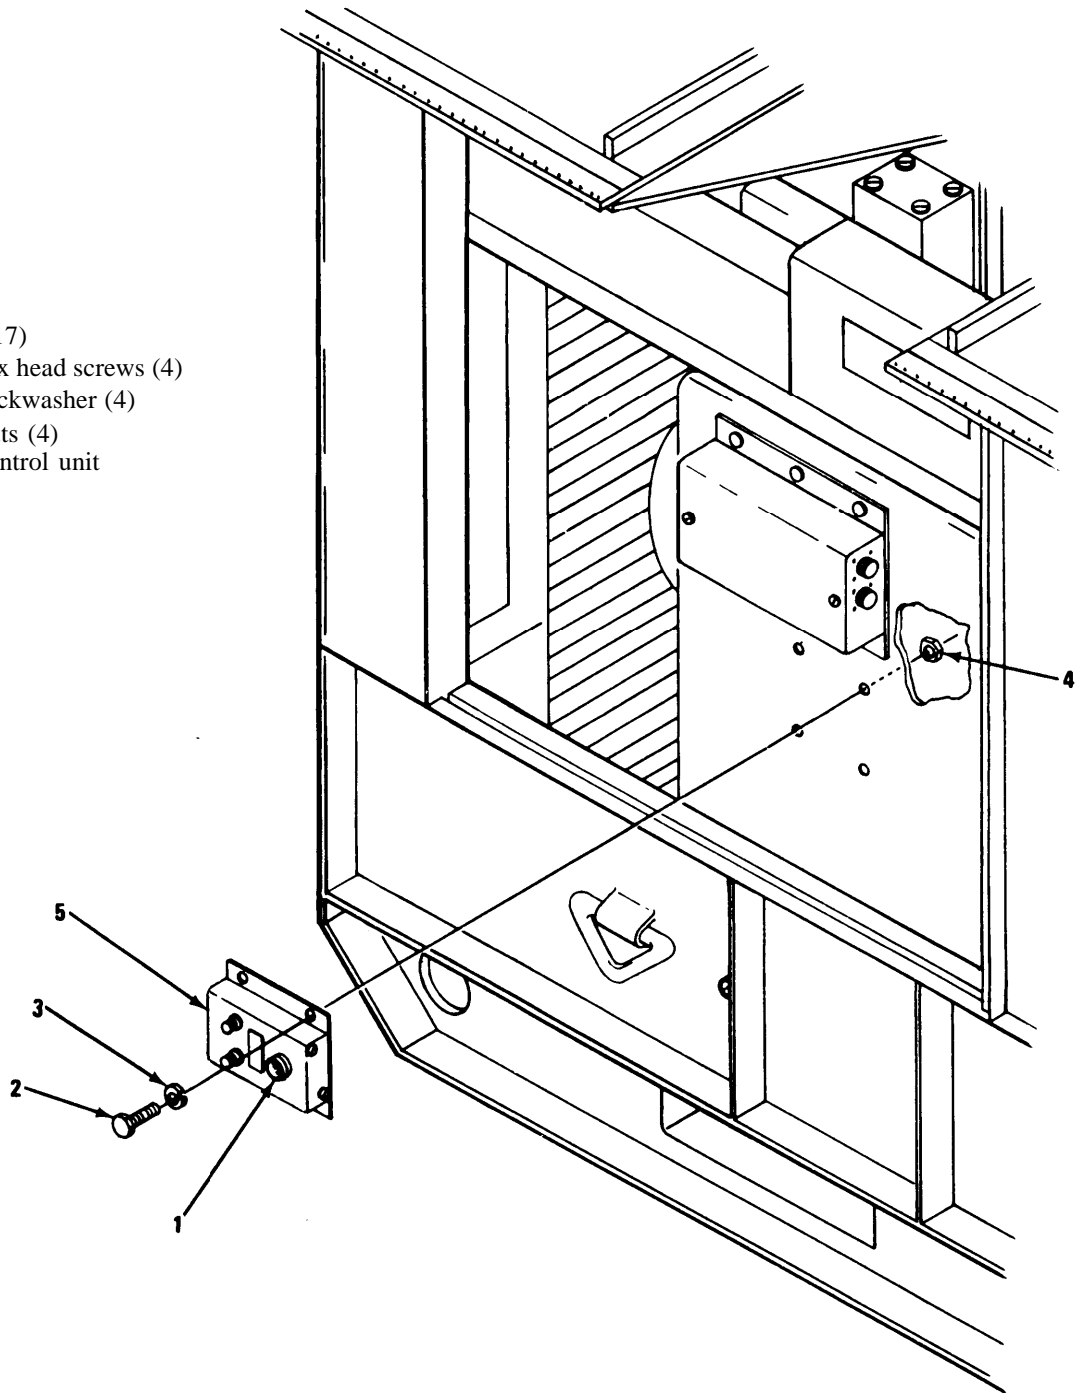

Figure 4-30.2. Governor Control Unit Removal and Installation
(1) Connect the breakout cable between wiring harness plug P17 (1, figure 4-30.2) and the electric governor.
(2) Using a digital voltmeter, make the voltage readings in table 4-4 at the breakout cable plug. All readings are measured between the terminal and ground. Terminals F, G, H and T are ground.
(1) Disconnect electrical connector P17 (1, figure 4-30.2).
(2) Remove 4 hex head screws (2), lock washers (3) and nuts (4).
(3) Remove the control unit.